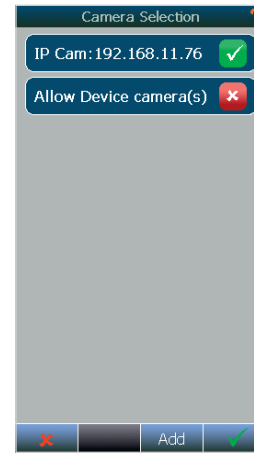

Figure 13.3
3. Once the camera is configured it will be visible in the Camera Selection menu. The camera you added is by default turned off. Remember to turn it on. See Figure 13.3.